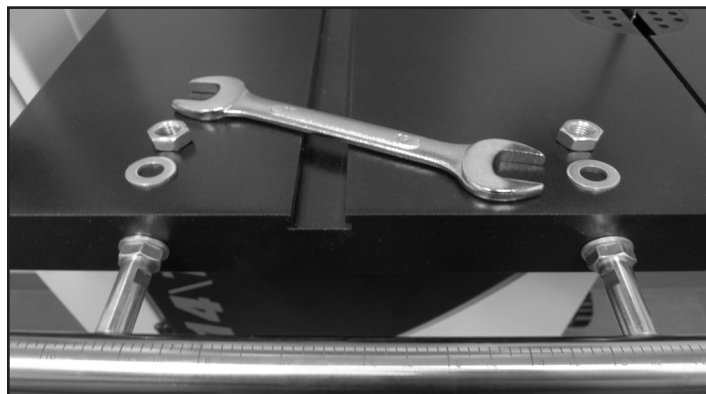

FIGURE 5
1. Mount the fence Guide Rail (#20F) onto the front table edge with the two fence bar Nuts and Washers (#17F, 18F) Fig. 5. Position the bar so that it is parallel with the table surface, and equal distance out from the front edge of the table when measured at both left and right front edges of the table.